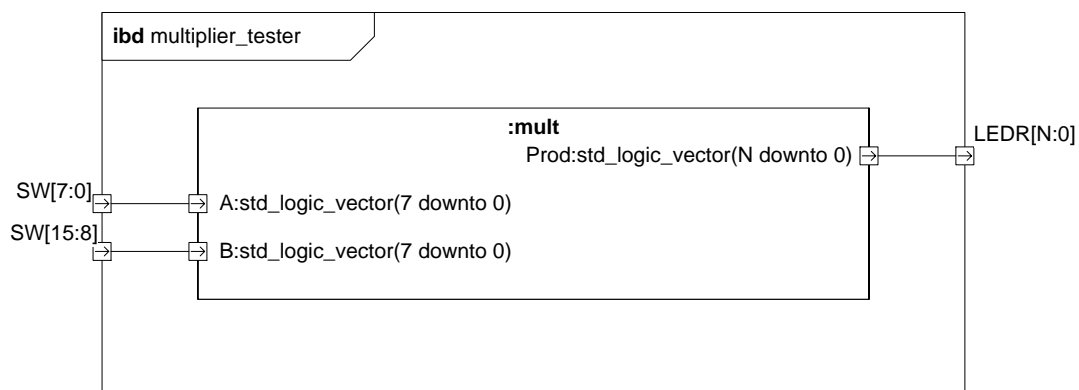

FIGURE 3: MULTIPLIER
- 1) Create a component with the interface depicted in figure 3. The component must multiply the two inputs and output the result. Use the '*' operator and dataflow style. *How does the number of bits on the in- and output correlate?*